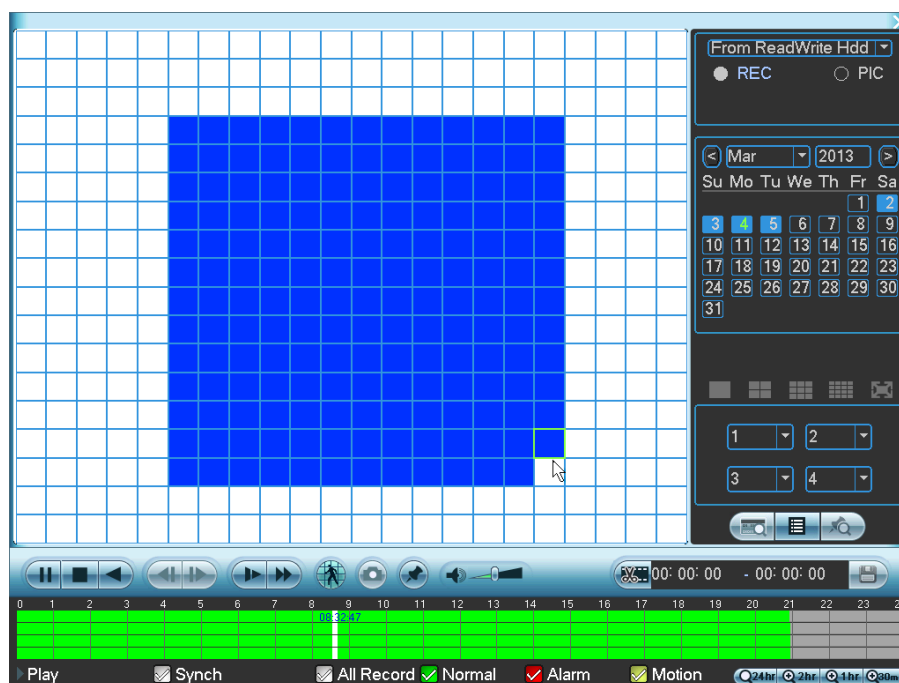

Figure 2-10
2. Left-click and drag to select smart search zones, that is, the areas on the image where you want to search for motion activity. See Figure 2-10. There is no motion detection zone by default—you must select one.